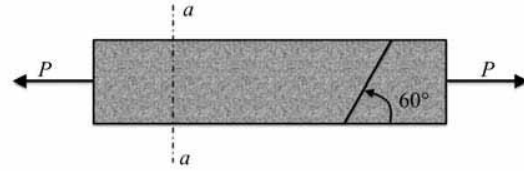

Figure 4
- (a) Draw shear force and bending moment diagrams of the beam mentioning the sign convention. (8)
- (b) Identify and state the location at which the bending moment is maximum in magnitude. (2)
- (c) Determine the minimum depth  $b$  of the beam such that the bending stress in the beam does not exceed 300 MPa. (6)
4. A wooden sample shown in Figure 4 was subjected to an axial load  $P$ . The sample was found to fail (break) at an angle  $\theta = 60^\circ$  when the normal stress on the oblique plane at  $60^\circ$  reached 50 MPa. The cross-sectional area (section  $a - a$ ) of the sample was  $100 \text{ mm}^2$ .